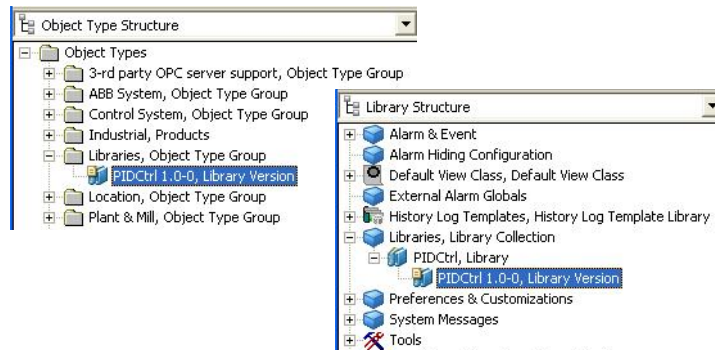

Figure 344. New Library Version in the Object Type Structure and Library Structure
4. Now a Library object is created for the new library and a Library Version object for the first version of the library is created. The Library Version is also inserted in the Object Type Structure, at the specified insertion point, refer to Figure 344.